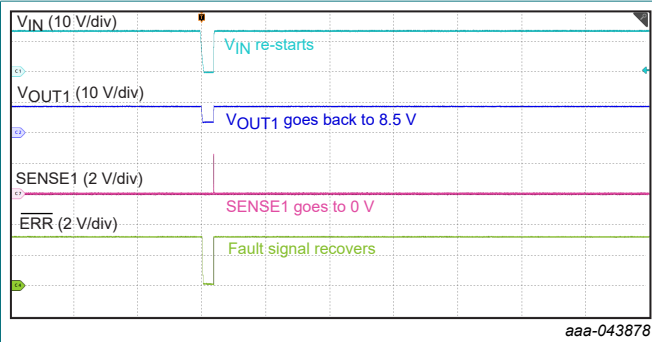

Fig. 26. Case 2: big output capacitor (auto-retry)
- Auto-retry behavior: Output recovers normally even when voltage does not fully discharge between cycles. SENSEx and ERR signals return to normal indication. Refer to Fig. 26 for more information.